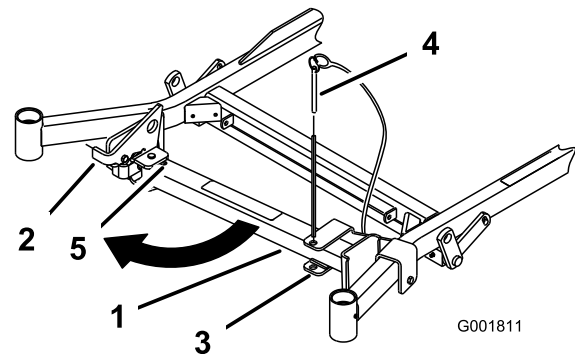
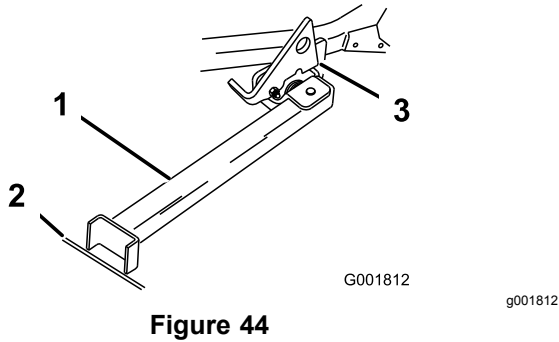

Figure 43
Figure 44
2. Remove the bracket pin (Figure 43).
- Swing the stand foot out front and slide it toward machine, into the bottom of slot (Figure 43 and Figure 44).
- Set the foot of the stand on the ground and rest the latch on the pivot tab (Figure 44).
Note: For best results, place the foot of the stand into the seams in sidewalks or into the turf (Figure 44).
- Drive the machine onto the stand. Stop when the latch drops over the tab into the locked position (Figure 44).
- Return the stand to its rest position (Figure 43).